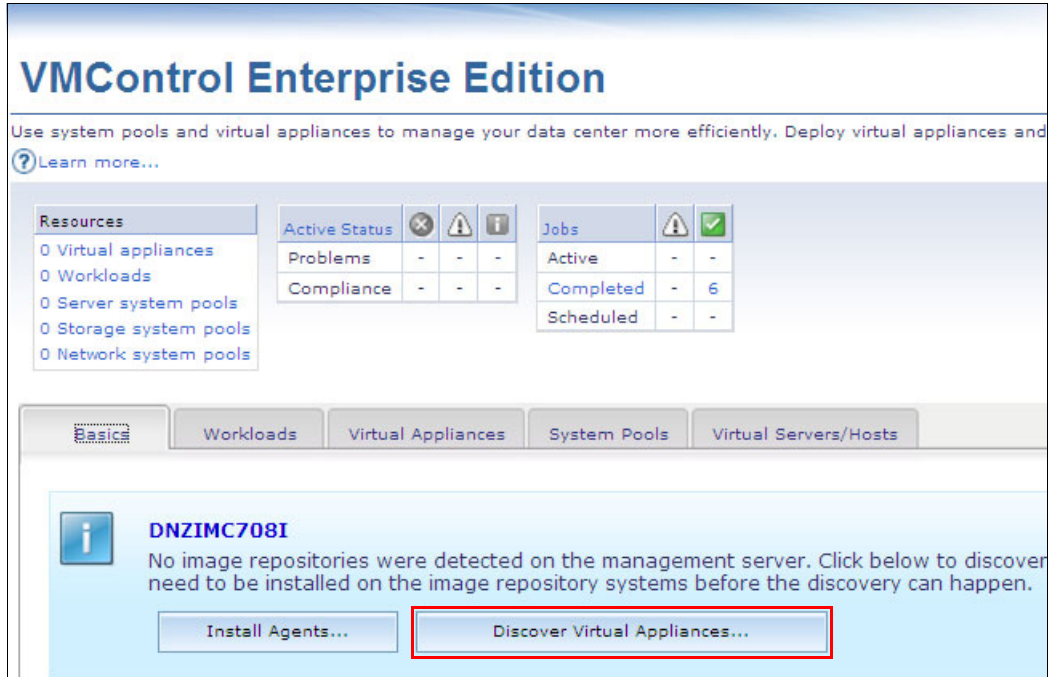

Figure 10-44 Discover virtual appliances
8. Discover the NIM server in VMControl, as shown in Figure 10-44.